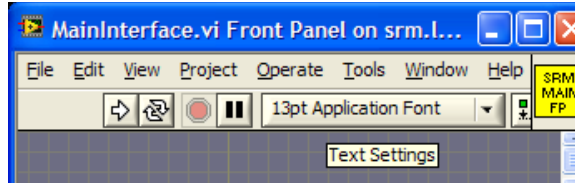

Figure 1. Run Application.
1. Double-click the **Discrete SRM** shortcut on the cyromag computer. If the program does not launch automatically, click the **Run** arrow in the upper left corner to start (*Figure 1*).